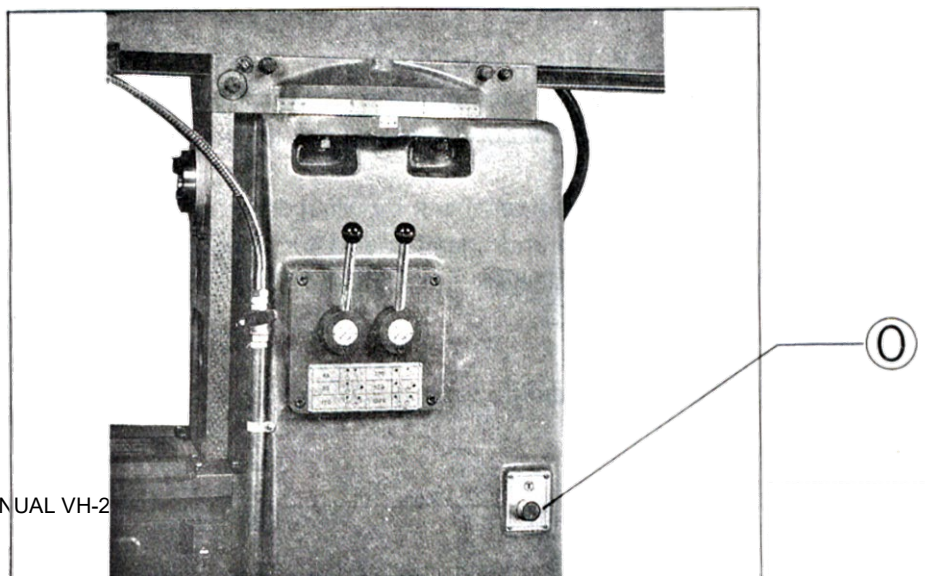

Fig.9
- ( O ) Jog Switch ( Figure 9 )